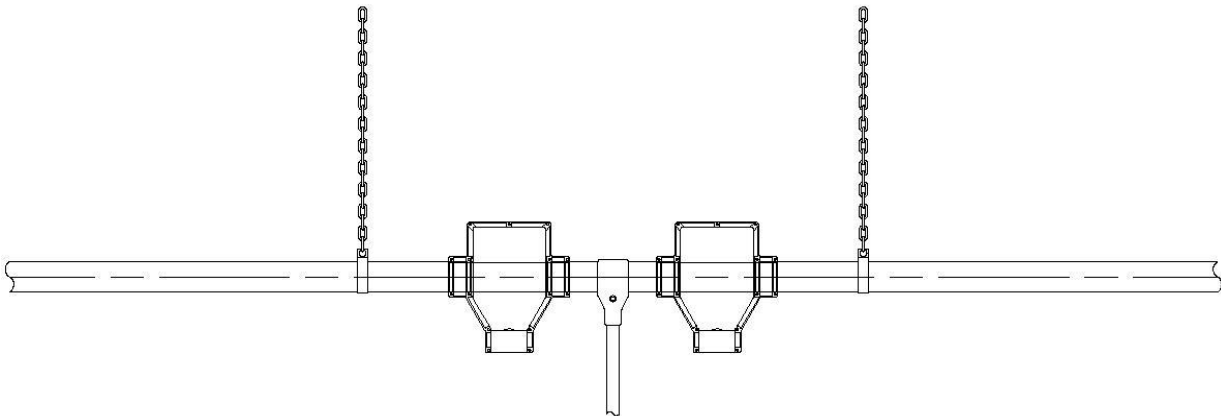

Fig. 76 Support of Multiple Feedvalves
- Use as much as possible 1" pipe with T-Clamps 1" x tube diameter for supporting the pipes. Where this is not possible, a chain can be used hanging from the ceiling. If two or more valves are hung close to one another, a support or chain has to be placed between the valves.(Fig.76)